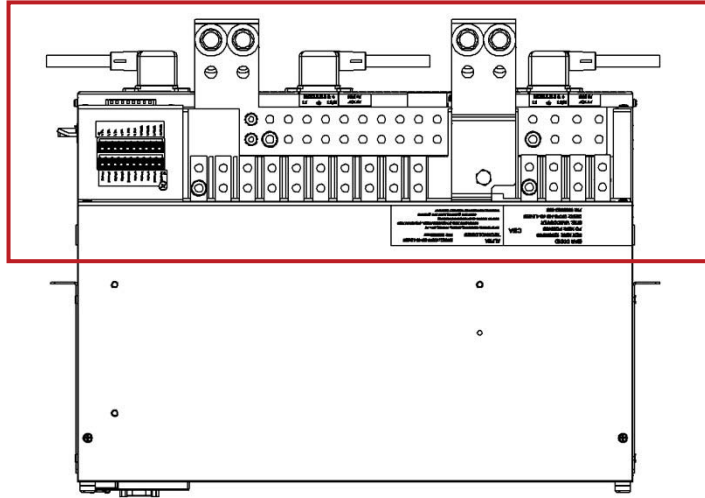

Figure 4—Example of an insulated tool kit
- Insulated hand tools, see Figure 4: